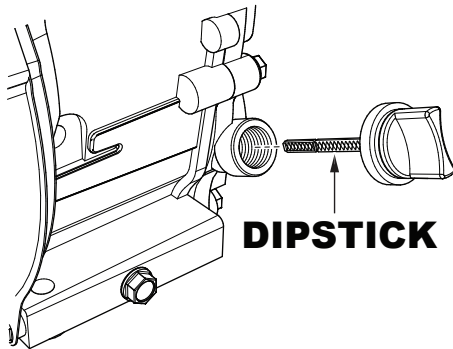

Figure 14. Engine Oil Dipstick
2. Remove the dipstick (Figure 14) from the engine oil filler hole and wipe it clean.